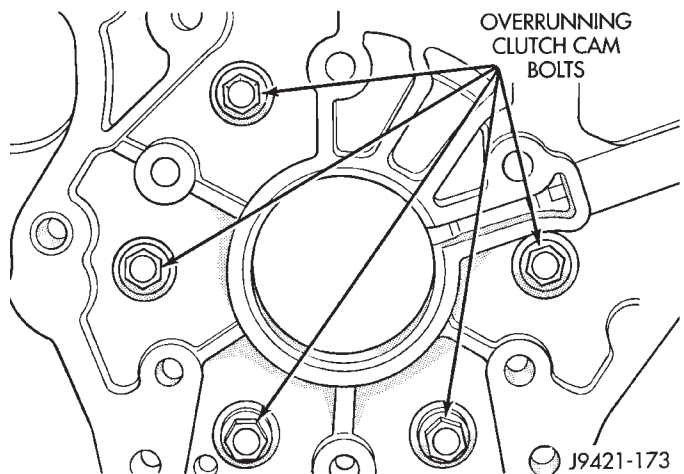

Fig. 27 Overrunning Clutch Cam Bolt Locations
(40) Remove bolts attaching overrunning clutch cam to case (Fig. 27).
(41) Remove low-reverse drum and overrunning clutch as assembly. Slide drum and clutch through rear band and out of case. Set drum and clutch assembly aside for cleaning and inspection.
(42) Remove rear band and link from case.